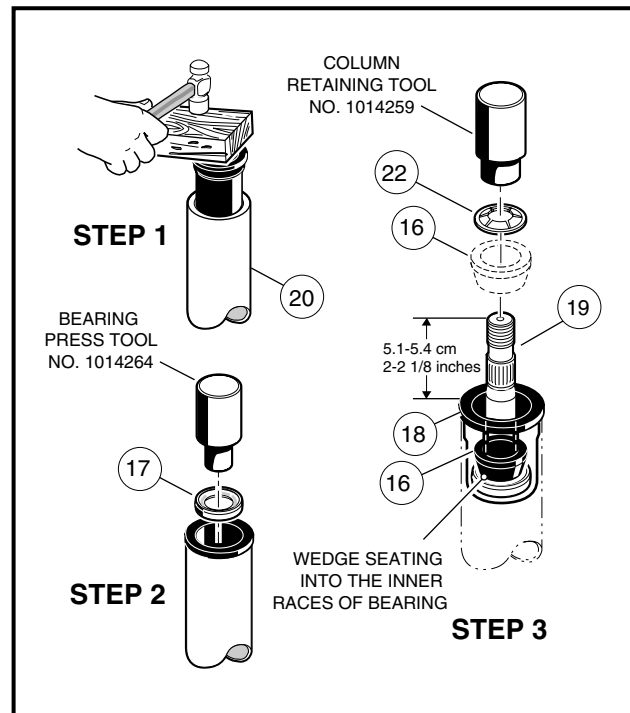

Figure 7-6 Steering Shaft – Top End
1. Turn the steering wheel all the way to the right. Note the distance between the passenger side spindle stop (2) and passenger side A-plate (3) (**Figure 7-6, Page 7-7**). The internal stop on the rack must reach its limit of travel against rack and pinion housing at exactly the same time the spindle stops against the passenger side A-plate (with vehicle wheels turned to the right). If simultaneous contact occurs, steering is in correct adjustment; Proceed to step 4. If simultaneous contact does not occur, proceed to step 2.